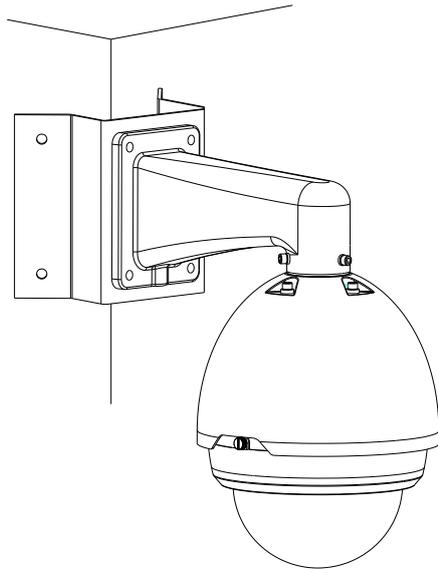

Figure 4-3
2). Please refer to chapter 1.5 for detailed installation information. See Figure 4-3.